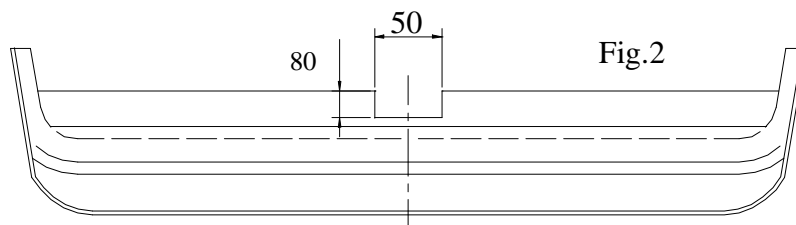

Fig.2
3. Position the towbar to the chassis members (do it in such a way that towbar`s holes cover chassis member`s holes) then slide special nuts (pos. 4) through the ractangle holes of the chassis members and fix the towbar using screws M10x35mm (pos. 6).
4. Cut the bumper according to the fig. 2.